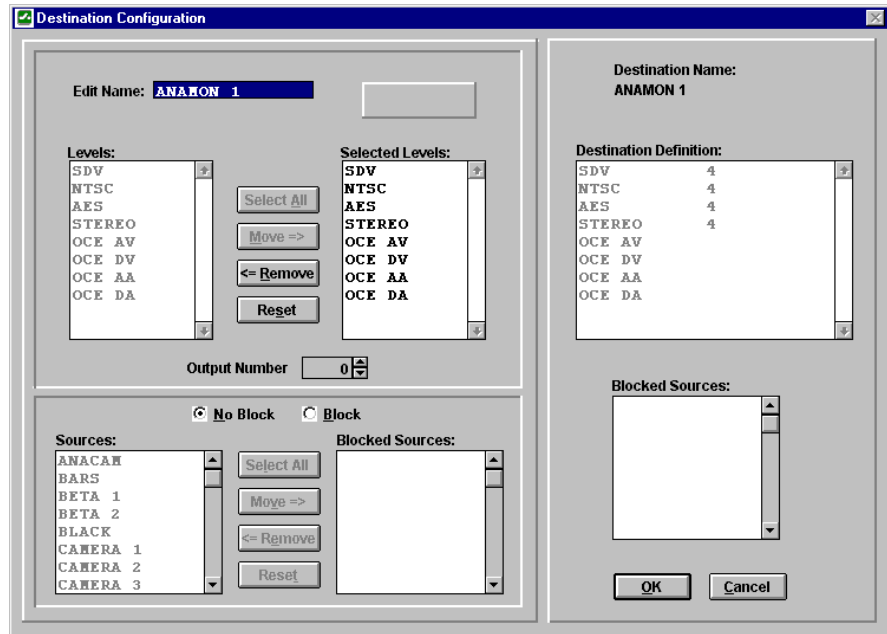

Figure 30 Destination Configuration Window
1. Click the **Add** button in the DESTINATION window to open the DESTINATION CONFIGURATION window (Figure 30).
To modify an existing destination, select the destination to be changed and click on the **Edit** button. This will open the DESTINATION CONFIGURATION window (Figure 30) where any desired changes may be made.
To create a destination based on an existing one, select the existing destination and click on the **Copy** button. This will open the DESTINATION CONFIGURATION window (Figure 30). When this window opens, select a new destination name, and change the displayed destination information as required.